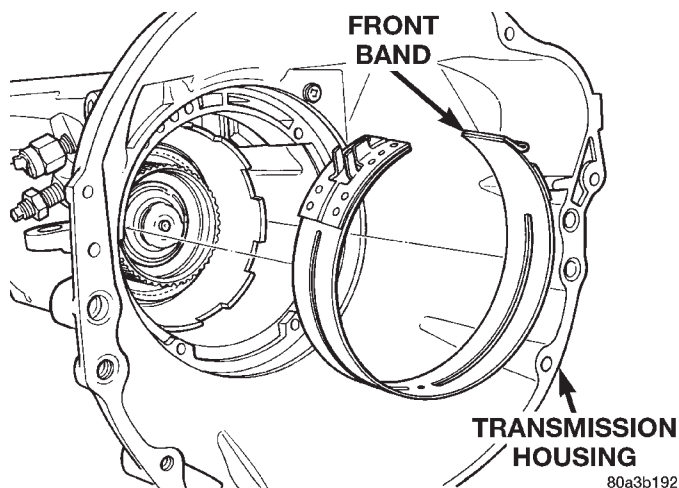

Fig. 78 Front Band
(22) Remove front band from case (Fig. 78).
(23) Remove extension housing from transmission case.